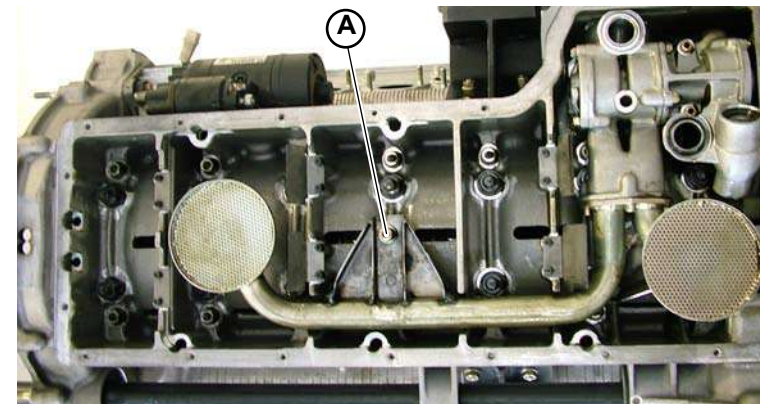

Fig.2
2. Unscrew the oil draft pipe mounting screw (A-Fig.2) to the lower part of the crankcase.